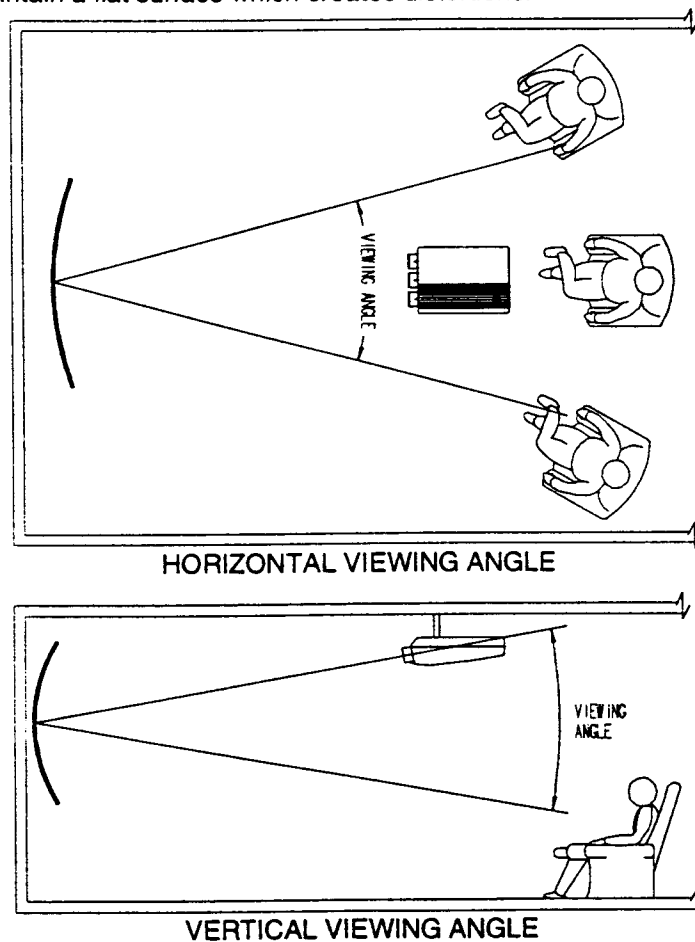

FIGURE 4-5.
4.4.2.4 Curved High Gain Screens: (Figure 4-5)